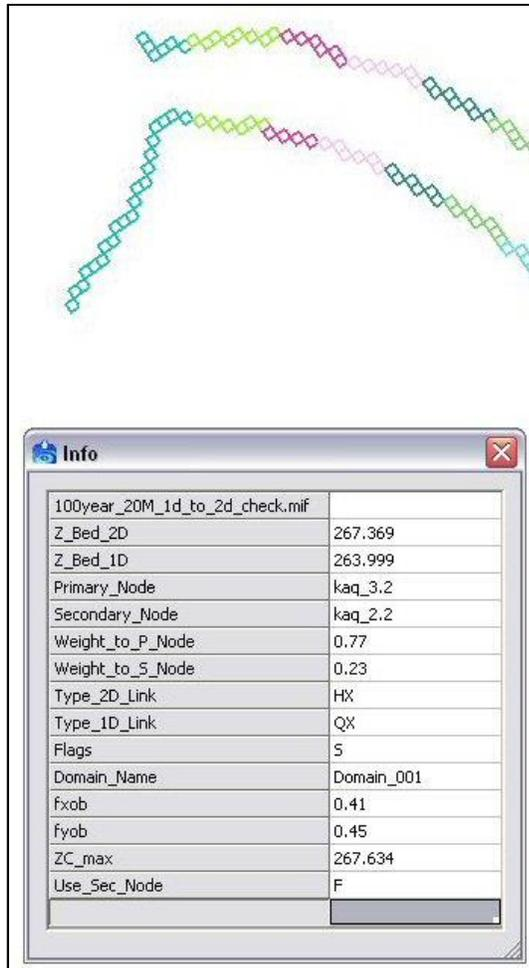

Figure 15 Sample check file
7. Using the **Get Attributes**  tool, click on one of the cells in the layer to bring up the *Info* dialog (Figure 15).